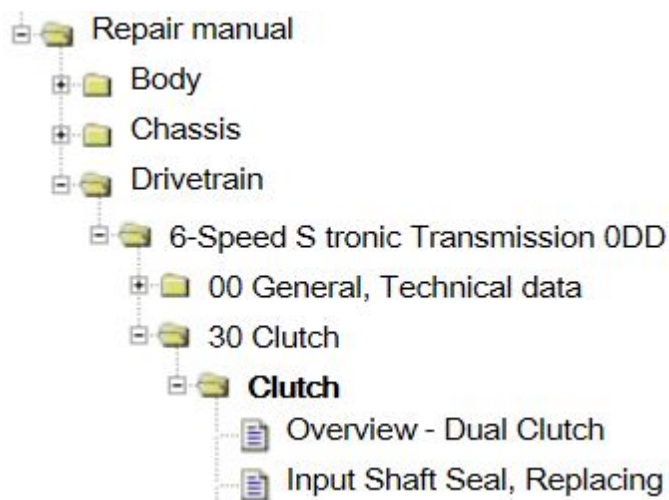

Figure 3. Location of repair manual directions.
2. Replace the oil seal according to the repair manual. Located in ELSA under *Drivetrain >> 6-Speed S tronic Transmission ODD >> 30 Clutch >> Input Shaft Seal, Replacing* (Figure 3)